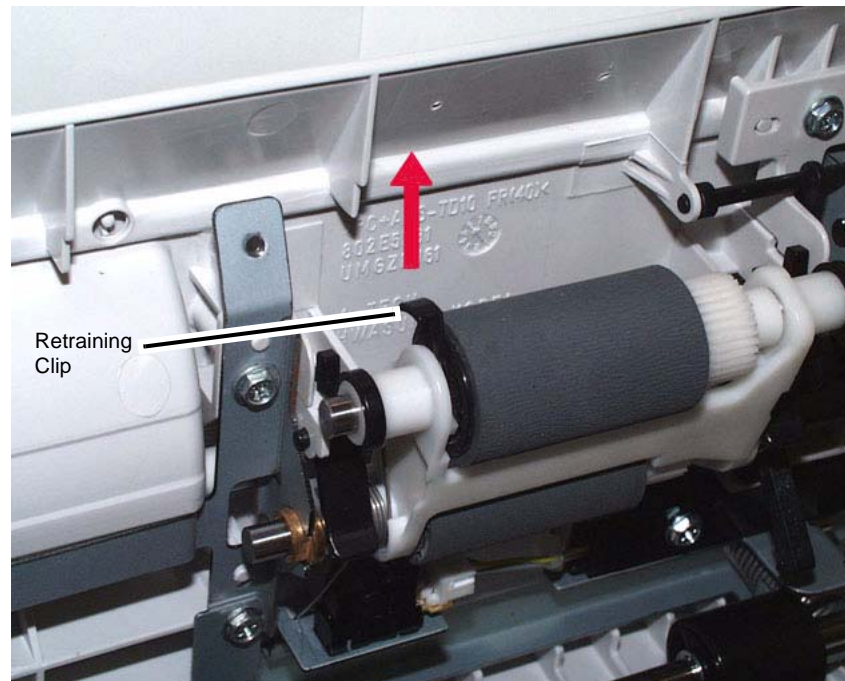

Figure 3 Removing the retaining clip from the Nudger Roll
4. Lift the retaining clip from the Nudger Roll. (Figure 3)